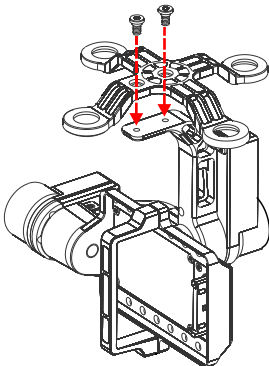

Fig.5
4. Tighten the M2.5x5 screws to fix the gimbal to the Bottom Board of Damper Unit shown in the Fig.4 or Fig5, select one of the steps according to the position of screw threads.